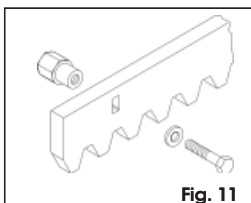

Fig. 11
5.4.1. CREMAGLIERA IN ACCIAIO A SALDARE (Fig.11)